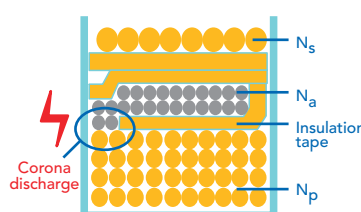

Figure 7.1 : Corona discharge
**Transformer** : When the primary side of a transformer has poor insulation, Corona discharge occurs on the primary winding under normal usage (Shown in Figure 7.1). The insulation capability of the primary side will be decreased after Corona discharge has occurred over time. For instance, most power transformers reserve an auxiliary coil in the primary side for other circuits to use (Shown in Figure 7.2). When the peak voltage ( $V_{pk}$ ) between pin 1 and pin 5 is 750 volts, if the manufacturing process was bad (For example, bad taping with insulation tape or a bad wire sleeve), Corona discharge occurs continuously under usage. The insulation capability of the primary winding will be decreased, and eventually the power transformer will burn out due to the enameled carbonization.